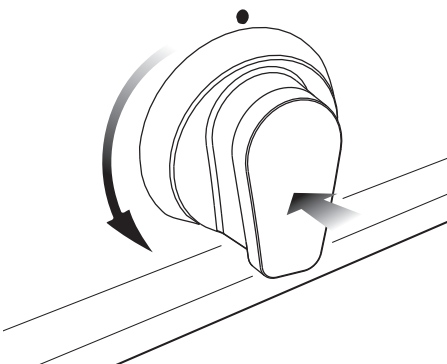

Fig. 2.2
1. Push and turn the knob in an anti-clockwise direction up to the **Hi** position (maximum rate), push in and hold the knob until the flame has been lit (fig. 2.2).
2. Push and turn the knob in an anti-clockwise direction up to the **Hi** position (maximum rate), push in and hold the knob until the flame has been lit (fig. 2.2).